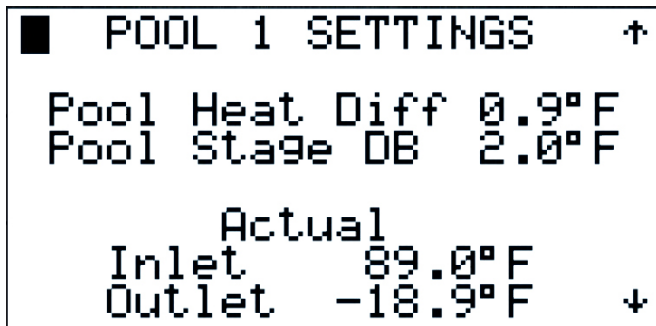

Figure 66
2.3.3.2.3 Tuning – Pool Settings (Figures 66 & 67)